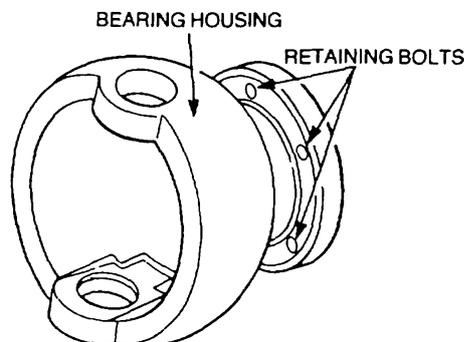

Figure 114 Bearing Housing Removal
- k. Remove the six bolts retaining the bearing housing to the axle case (Figure 114) and remove the bearing housing.